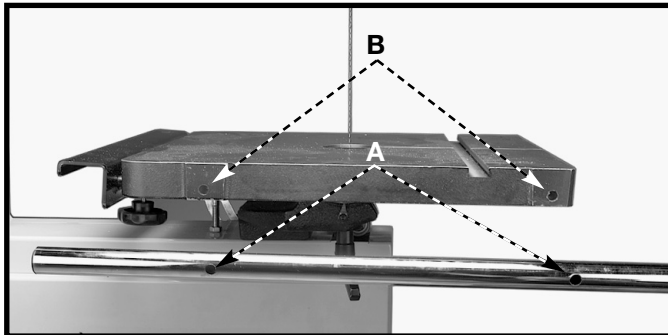

Fig. 9
1. Align the two holes (A) Fig. 9 in the front fence rail with the two holes (B) in the front of the table.
2. Insert a 1/4-20 x 1-1/2" socket-head cap screw through one of the holes (A) Fig. 9 hole in the front fence rail. Place a spacer on the screw between the front fence rail and the table. Thread the screw into the front of the table. Repeat for the other hole (A) in the front fence rail. Tighten the two screws securely using the 5mm hex wrench.